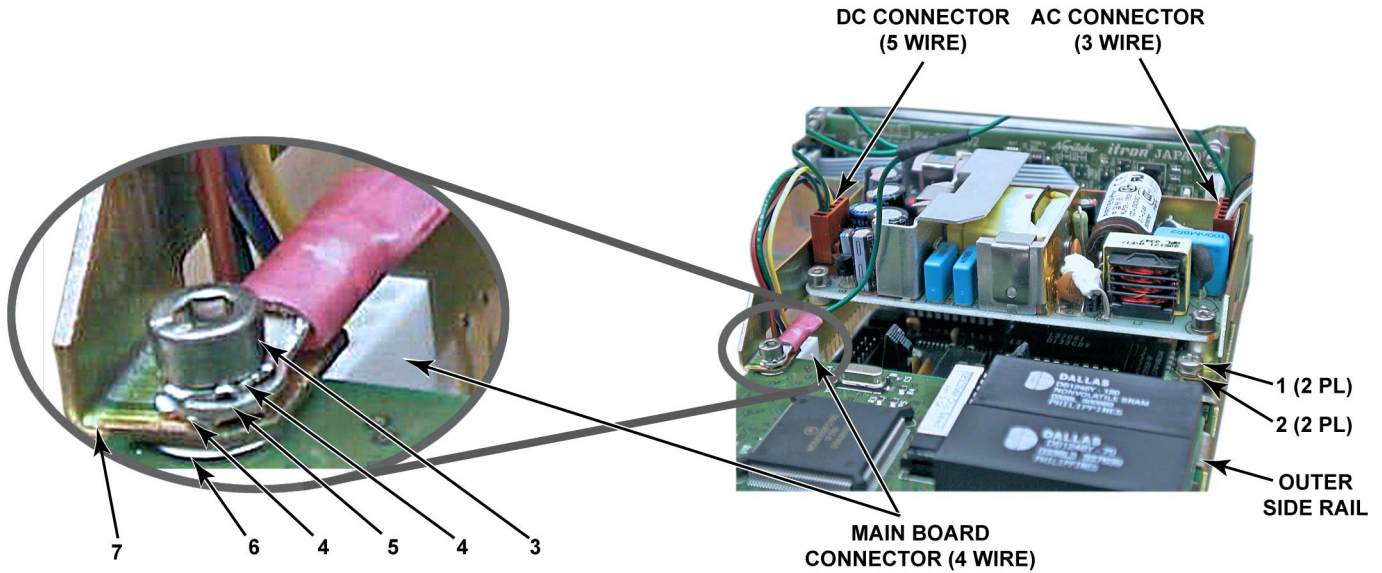
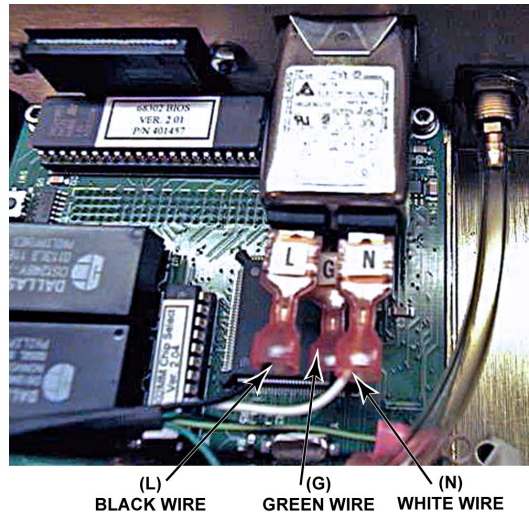

Figure 7. Power Supply Assembly Detail
Figure 8. Cable Assembly AC Receptacle Connections
- ❼ Attach the new mounting bracket to side rail 2 places using the M3 x 6 pan head screw and M3 lock washer. (See figure 7)
- ❼ Fasten the new mounting bracket and the AC/DC Cable Assembly grounding lug to the Mini-Micro board using the M3 x 10 screw, M3 flat washer, and two M3 external tooth lock washers (see Figure 7).
⑩ Install new AC/DC cable (see Figure 7). The AC connector plug (3-wire) must be installed to the Power Supply connector marked J1 adjacent to the outer side rail. The DC plug (5-wire) connects to Power Supply connector J2. The DC Plug (4 wire) connects to the Main Board connector marked P1. The remaining 3 single wire slip-on connectors attach to the AC receptacle on the rear panel as shown in Figure 8.